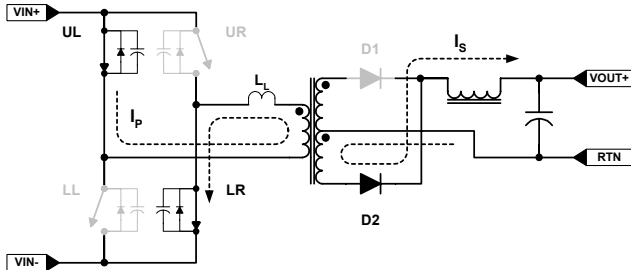

FIGURE 10. UL - LR POWER TRANSFER CYCLE
parasitic capacitance in the circuit including winding capacitance. Each switch is designated by its position, upper left (UL), upper right (UR), lower left (LL), and lower right (LR). The beginning of the cycle, shown in Figure 10, is arbitrarily set as having switches UL and LR on and UR and LL off. The direction of the primary and secondary currents are indicated by  $I_P$  and  $I_S$ , respectively.